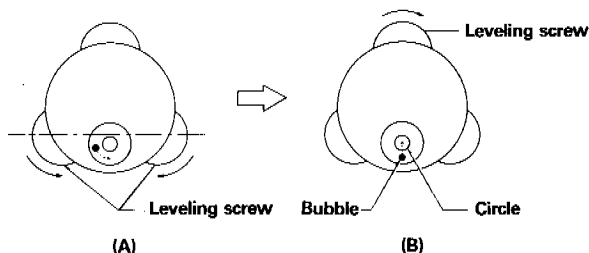

Fig. 3
1. By adjusting two leveling screws selected at random, position the bubble in the center of the vial (see Fig. 3 (A) ). (To adjust the screws at the same time, turn them in opposite directions.)
2. Adjust the remaining leveling screw, and position the bubble in the center of the circle (see Fig. 3 (B) ). For the relation between the screw adjusting direction and bubble moving direction, see the arrow marks in (A) and (B) of Fig. 3.